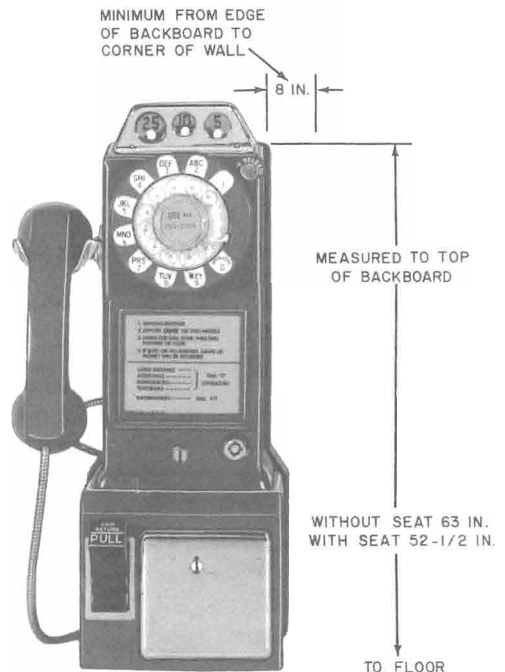

Fig. 13—Suggested Mounting Height and Clearance
- 3.17** To install on a wall without a shelf, use a 174A backboard. See Fig. 13 for requirements.
3.20 Fig. 13 shows the suggested mounting height and clearance for all coin stations. Stations may be mounted at other heights to meet local conditions providing this does not create service or maintenance problems.